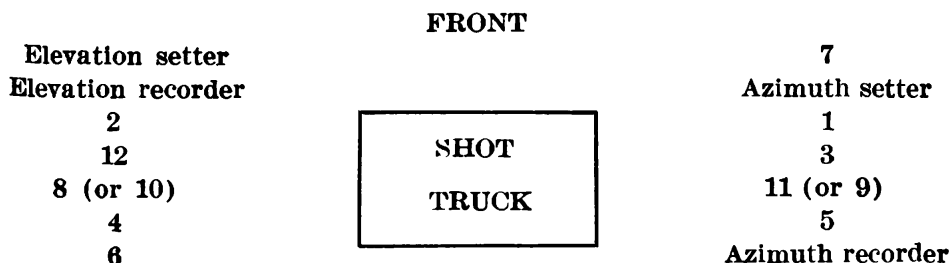

FIGURE 15.—Cover posts for 12-inch mortar squad.
Q. What are the cover posts of the mortar squads? *A.* See figure 15.
(1) At the command **TAKE COVER**, given at any time, the squads take position in rear of the emplacement. Each squad is in double column as shown in figure 15.
(2) Normally the cover post for No. 4 is the same as his regular post and the squad forms on him at the command **TAKE COVER**. He does not quit the rammer except at the command **CEASE FIRING**, or when directed to do so, in which case he places the rammer on the rack or prop.
(3) When powder is not served from the rear of the pit, the cover post of No. 6 is near the entrance to the gallery from which the powder is served.
(4) At the commands **LOAD**, **RELAY**, and **WITHDRAW POWDER CHARGE**, cannoneers having duties to perform proceed to their posts as quickly as possible without interfering with each other. Similarly, in taking cover, the details proceed to their posts as rapidly as possible but should avoid interfering with those whose duties at the piece have not been completed.